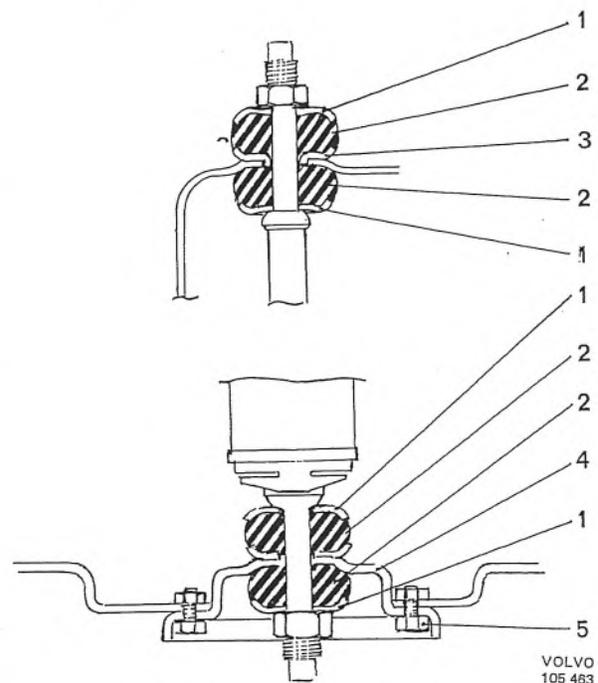

Fig. 7-6. Front shock absorber attachment
The shock absorber attachments, (Figs. 7-6 and 7-7)
3. Release the bolts (5, Fig. 7-6) for the lower attachment (4) in the lower control arm and pull out the attaching washer and shock absorber.
4. Installing is in reverse order to removal. Place the washers and rubber bushes according to Fig. 7-6.